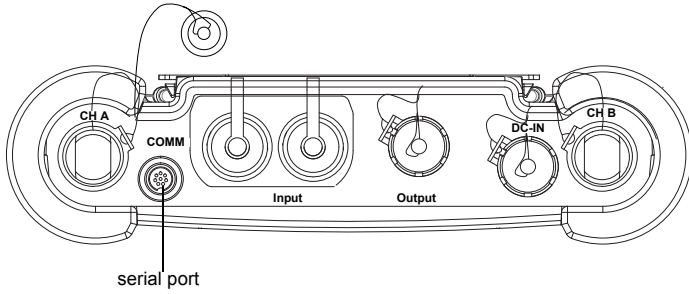
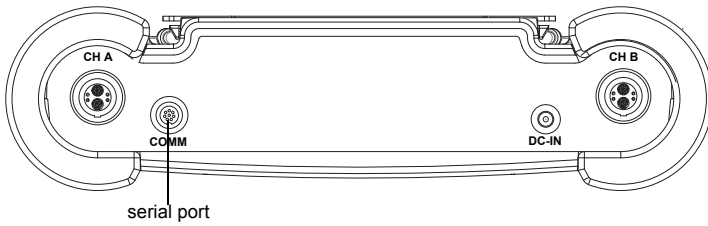

Fig. 7.20: Connections of the transmitter FLUXUS F608**-A2
Fig. 7.21: Connections of the transmitter FLUXUS F608**-F2
- Connect the RS232 cable to the transmitter (see Fig. 7.20 or Fig. 7.21) and to the serial interface of the PC.